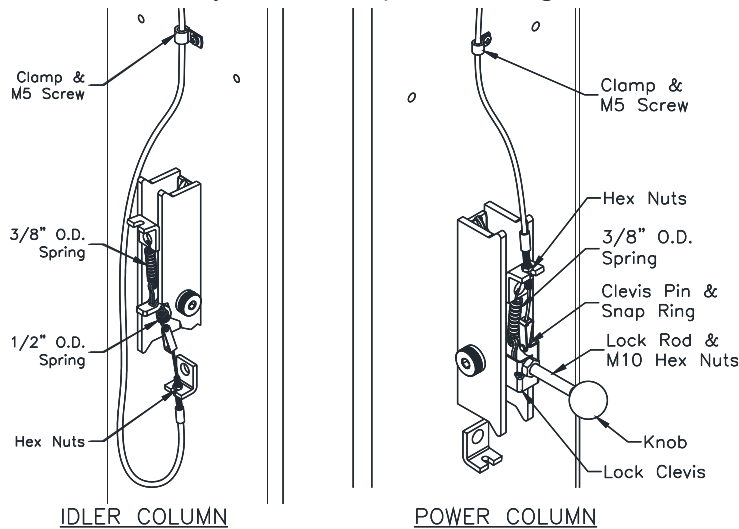

Fig. 8 – Lock Assembly
28) Attach Mechanical Lock Release Cable Assembly to each lock pawl. See Fig. 8.